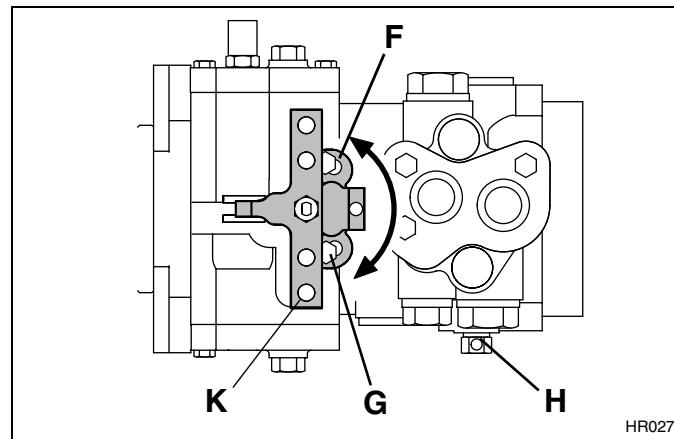

Figure 3H
1. Make sure return arm (**K**-Figure 3H) on pump is adjusted to neutral, Section 3.7.